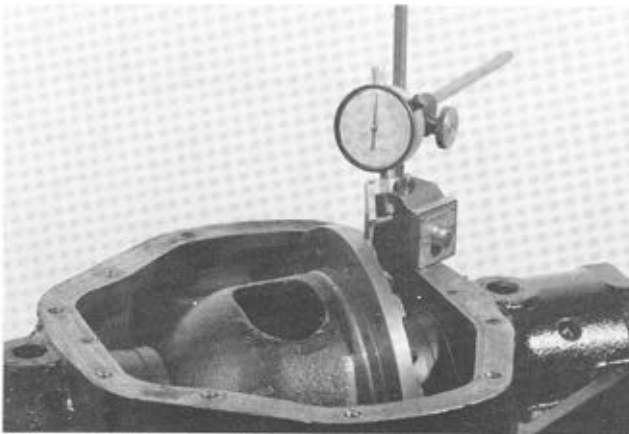

Figure 4-45
- (1) Total amount of space measured without ring gear as shown in Figure 4-45 Measurement A _____
- (1) Total amount of space measured without ring gear as shown in Figure 4-45. Measurement A .105" (2.67 mm)